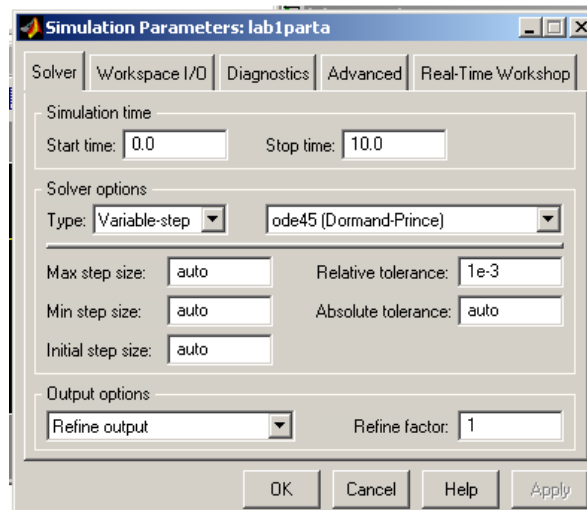

Figure 9. Simulation Solver Parameters
2.2.5 Setup Simulation Parameters. Select from top menu, Simulation → Simulation parameters to get the window shown in Figure 9. Under the solver tab, set Start Time=0.0, Stop Time= 10.0. Solver Options: This sets the numerical integration or differential equation solution parameters. Set type= Variable Step; ode45 (Dormand-Prince); use default settings for all other parameters. *Note: You can learn more about Simulink's solvers from the help pages.*